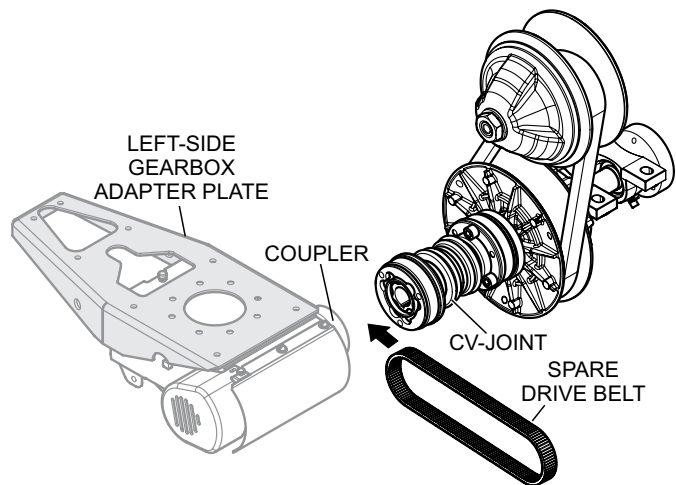

Figure 34. Spare Drive Belt Routing
5. Mount new spare drive belt and cover (Figure 34) onto left-side gearbox. Reinstall the 2 bolts that secure the spare belt holder to the left-side gearbox adapter plate.